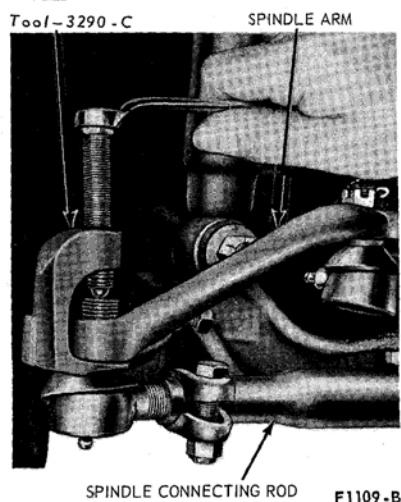

FIG. 3—Removing Spindle Connecting Rod
3. Remove the cotter pin and retaining nut and disconnect and remove the spindle connecting rod from the spindle arms using the tool shown in Fig. 3.
4. Remove the cotter pin and retaining nut, and disconnect the steering drag link from the left spindle arm using the tool shown in Fig. 3.